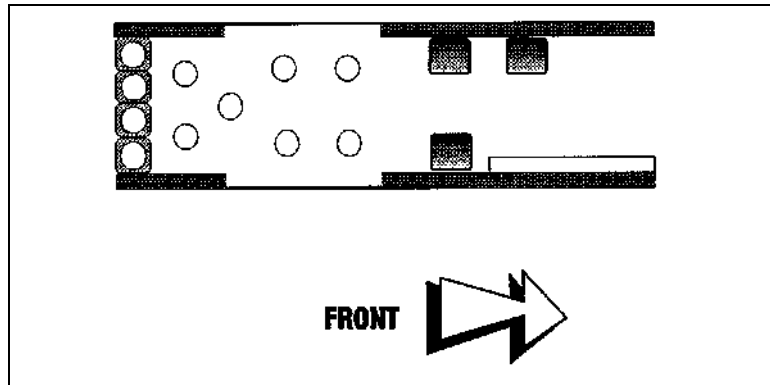

Figure 3-17. Rappelling personnel seating arrangement.
a. A maximum of 10 rappellers, with and without combat equipment, and 1 static rappel master is seated and restrained aboard the UH-60 helicopter when the center row of troop seats are removed (Figure 3-17).